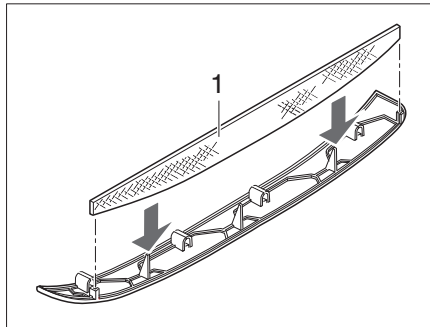
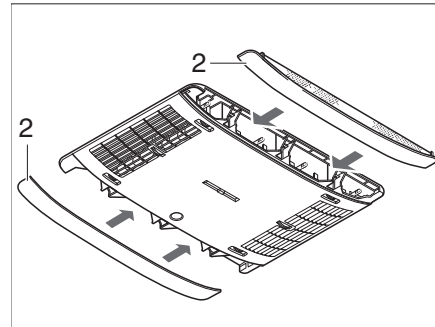

Fig. 396 Lint filter air conditioning unit
Fig. 397 Air conditioning unit panels
Two lint filters are located in the side panels (Fig. 397,2). The lint filters must be cleaned at regular intervals, at least every 6 months however, and replaced if necessary.
- Remove the panels (Fig. 397,2) from the air distribution unit and clean the lint filter (Fig. 396,1) or replace it if necessary.